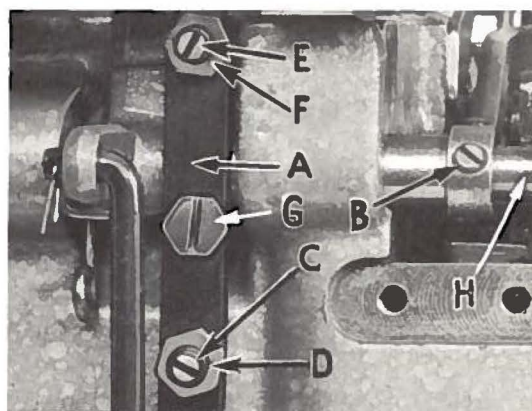

Fig. 13
Assemble the presser foot to presser arm. With needle in high position, swing presser arm into sewing position and set the presser foot to align needle holes (front and back) and flat on throat plate. The front edge of needle hole in presser foot must be aligned with front edge of needle hole in throat plate. It is also important that the bottom of the presser foot be flat on the throat plate. If necessary, presser foot can be realigned with throat plate slots by shifting the foot lifter lever shaft (H, Fig. 13). To move the shaft, loosen collar screws (B, Fig. 13) and clamp screw (G) and then shift the foot lifter lever shaft to the left or right as required. Retighten collar screws and clamp screw.
The foot lifter lever arm (A, Fig. 13) and the collar (B) secure the shaft. Be sure the presser arm does not bind and rise when presser foot release bushing is unlocked.